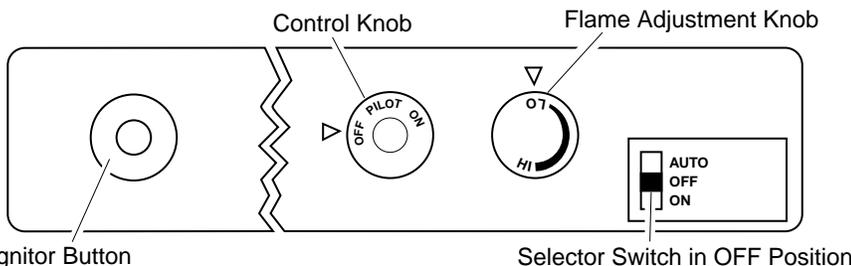

Figure 21 - Control Knob and Ignitor Button Location
4. Press in and turn control knob clockwise to the OFF position (see Figure 21).
5. Wait five (5) minutes to clear out any gas. Then smell for gas, including near the floor. If you smell gas, **STOP!** Follow "B" in the safety information, column 1. If you don't smell gas, go to the next step.
6. Press in and turn control knob counterclockwise to the PILOT position. Press in control knob for five (5) seconds (see Figure 21).